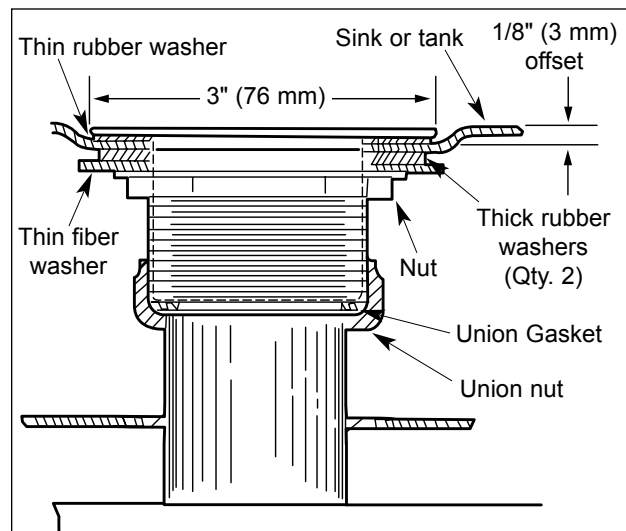

Figure 7. Installing Sink Strainer
4. See Figure 7. In each of the holes, install a male threaded sink strainer with a thin gasket between the strainer flange and the bottom of the holding vessel.